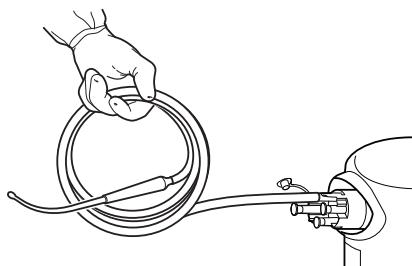
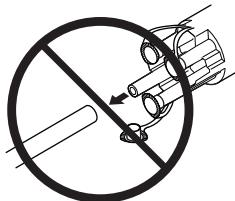

Figure 6 To Gather Suction Tubing
Figure 7 Keep Tubing Attached During Disposal
- With suction active, gather the suction tubing toward the manifold port to purge the tubing of fluid waste (Figure 6). DO NOT remove any attached suction tubing from the manifold (Figure 7).